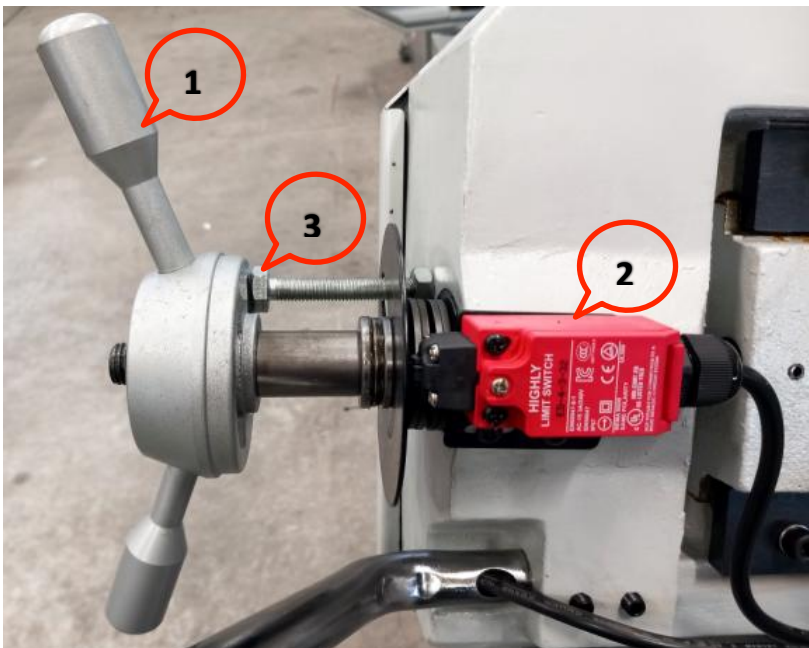

Figure 17 - Blade tension
- The ideal tensioning of the blade is obtained by rotating the blade tensioning hand wheel (1 fig. 17) clockwise.
- The blade tension value is predetermined by the manufacturer and occurs by rotating the hand wheel until the micro-switch button is pressed (2 fig. 17).
- The adjustment screw (3 fig. 17) acts as a mechanical end stop for the blade tensioning hand wheel.